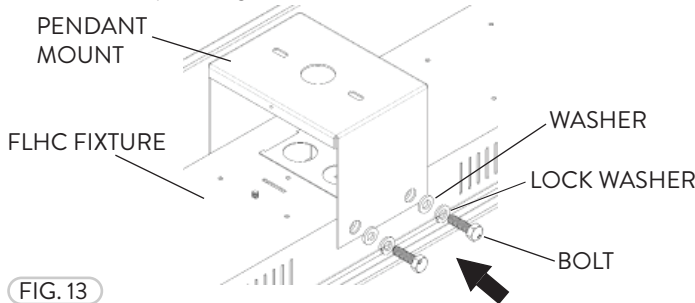

FIG. 13
- 1 Fasten the Pendant Mount to the top-center of the FLHC Fixture using the Bolts, Washers, and Lock Washers to screw the Pendant Mount into place (Fig. 13).